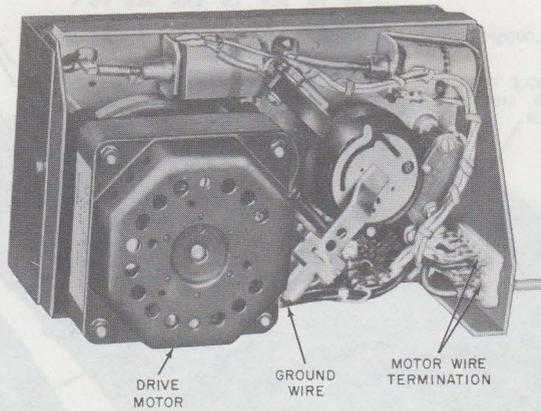

Fig. 5—KS-19245, List 2 Recorder (Motor Side)
3.01 KS-19245, List 2 Recorder (Fig. 5):
4. REPLACEMENT OF BELT ON KS-19245, LIST 2 RECORDER (Fig. 5)
- (4) Adjust recording capacity by carefully lifting tab of timer spring from slot and rotating to position of desired interval (Fig. 5).